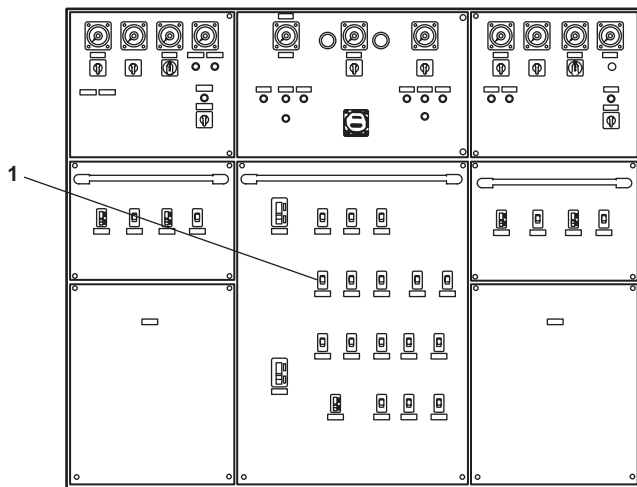

Figure 9. EOS Main Switchboard
- a. At the EOS main switchboard, set the BILGE PUMP NO. 2 circuit breaker (figure 9, item 1) to OFF.